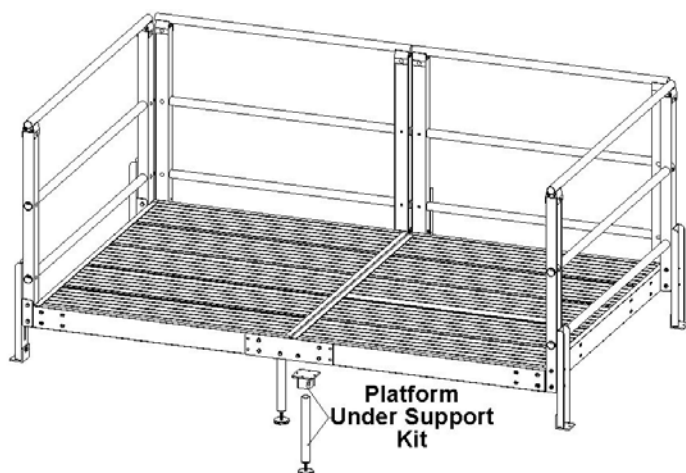
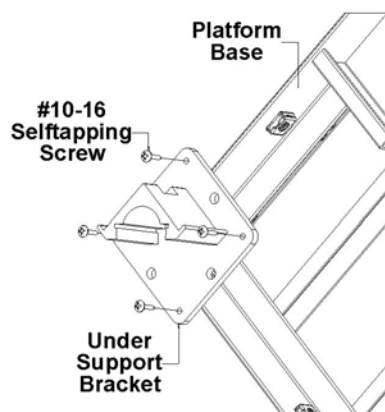
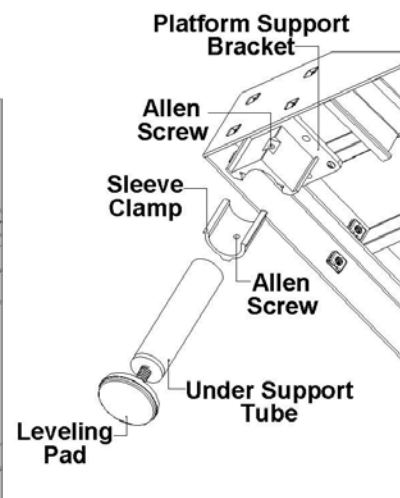

Fig.3.8
Fig.3.9
Fig.3.10
3.6 Platform Under-Support Attachment: Locate platform corners that will require a Platform under support kit (**Fig.3.8**). Place under support bracket flush in the underside corner of platform base. Attach using four #10-16 self tapping screws (**Fig.3.9**). Slide the Sleeve Clamp into the under support bracket, then insert under support tube all the way into the created pocket (**Fig.3.10**). Using a 5/32 allen wrench, tighten the set screw all the way down. The leveling pad can be adjusted for minor height differences; however, if major adjustments are necessary, cut down the under support tube using a saw or tube cutter.